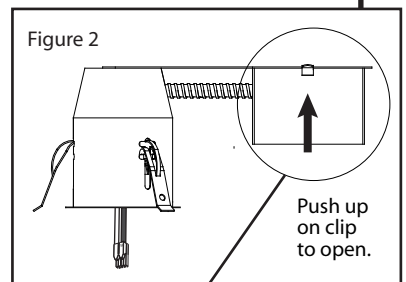

Figure 2
5. Push upward on the junction box closure clip to release the junction box cover. See Figure 2.